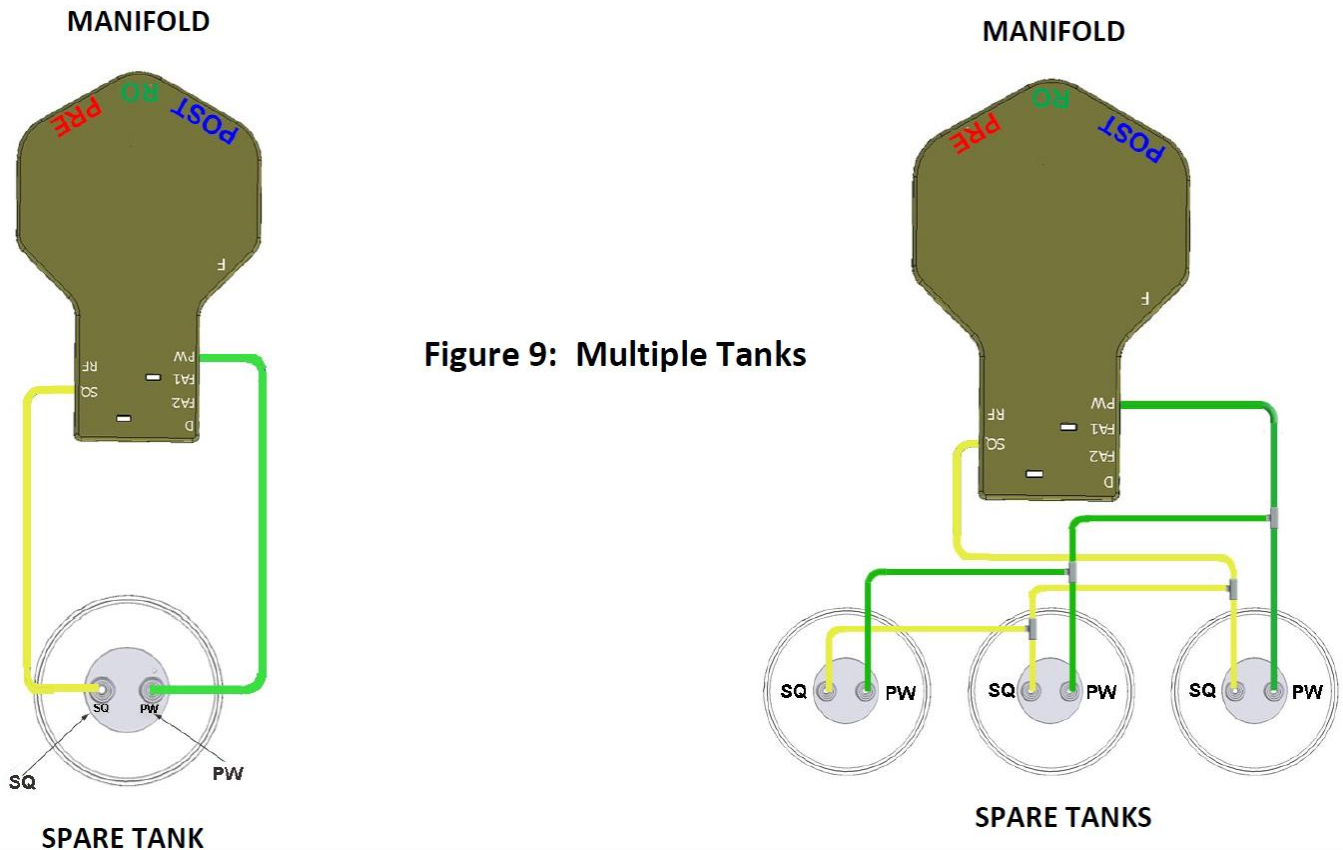

Figure 9: Multiple Tanks
- e. Connect ¼" yellow tubing between the matching SQ ports on the **WOW RO System** manifold and the spare tank adapter connected to the spare tank (See Figure 9 below for one or multi-ple tank set-ups).
- f. Connect ¼" green tubing between the matching PW ports on the manifold and the adapter (See Figure 9 below for one or multiple tank set-ups).